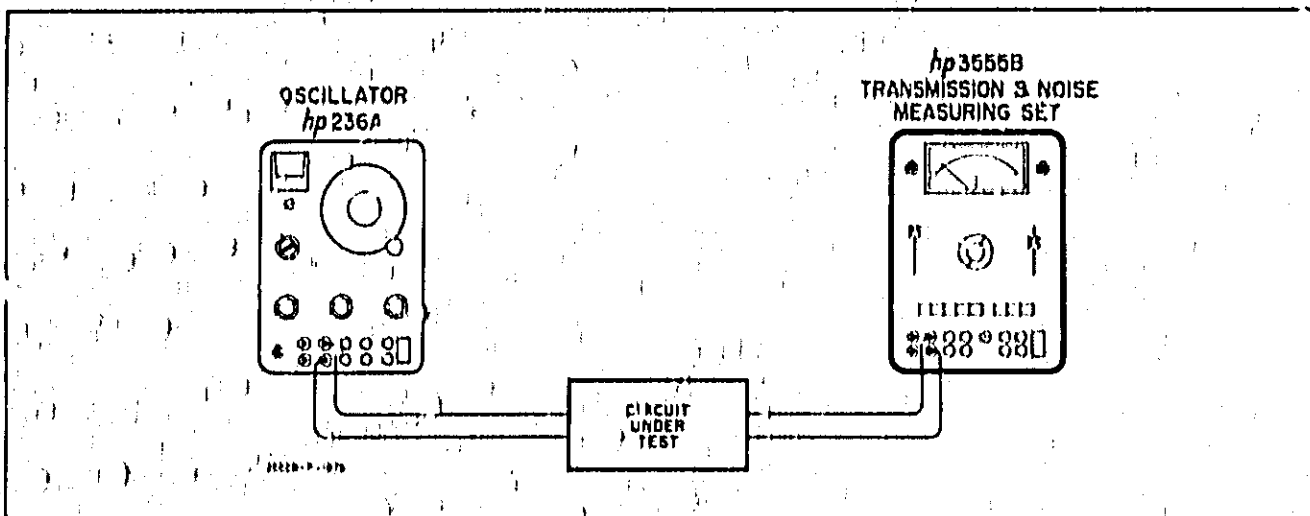

Figure 3-6. Typical Test Setup for Measuring Insertion Loss
3-49. Transmission loss is defined as the ratio of power from a transmission line by a receiving terminal to the power available from the sending equipment and is dependent on three factors: power dissipated by the dc resistance of the line, power losses because of impedance mismatch, power transferred to other circuits by inductive or capacitive coupling. (See Figure 3-6).
3-51. Figure 3-6 shows a typical transmission loss measurement setup. The oscillator is adjusted for a reference level and the signal is measured at the other end of the line with a level meter. Loss measurements are usually made at various frequencies to determine the response of the line.
2.	Establish a connection like the ones shown in Figure 3-6.